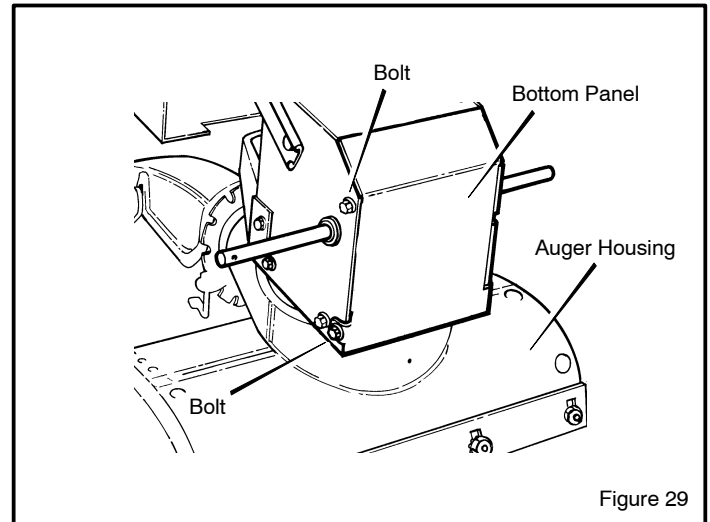

Figure 29
2. Loosen the **bolts** on each side of the **bottom panel** (see Figure 29).
18. Install the **bottom panel** (see Figure 29).
13. Install the **bottom panel** (see Figure 29).